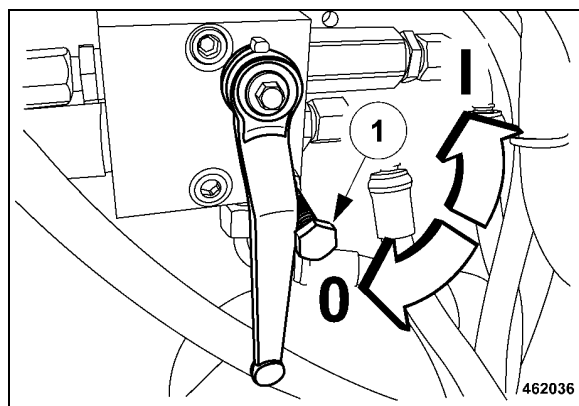

Fig. 105
- Switch the ball valve (Fig. 105) back to position "0", turn the locking screw (1) back in and counter it with the hexagon nut.